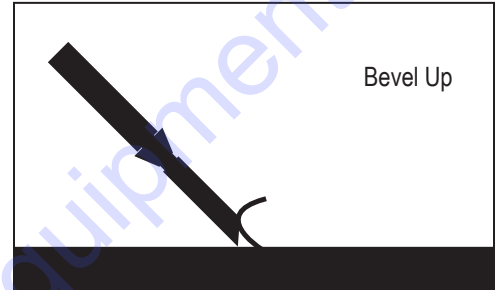
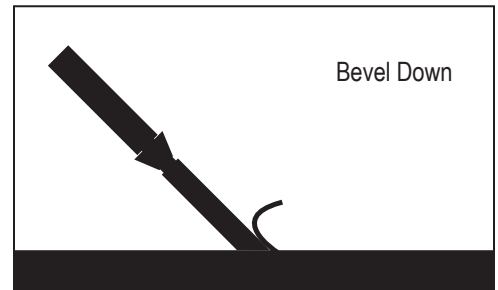

FIG. 9
FIG. 9.1
- Normally, bevel on blade is up for concrete (Figure 9); bevel down for wood (Figure 9.1)